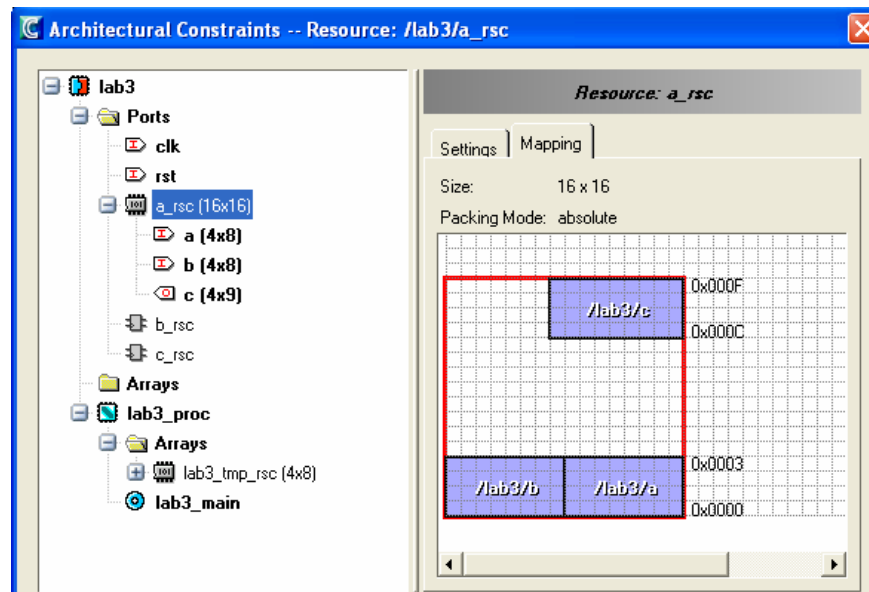

Figure 11 Setting the Base Bit
- ✓ Map “a” and “b” side by side by setting the base bit of b to 8 (Figure 11).